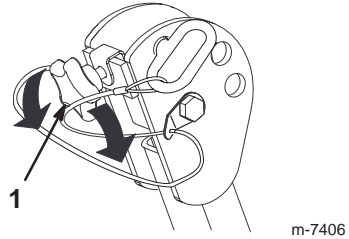

Figure 2
1. To lower the roll bar, loosen the front handles (Fig. 2).
- Tighten the front handles against the center roll bar ends (Fig. 2).